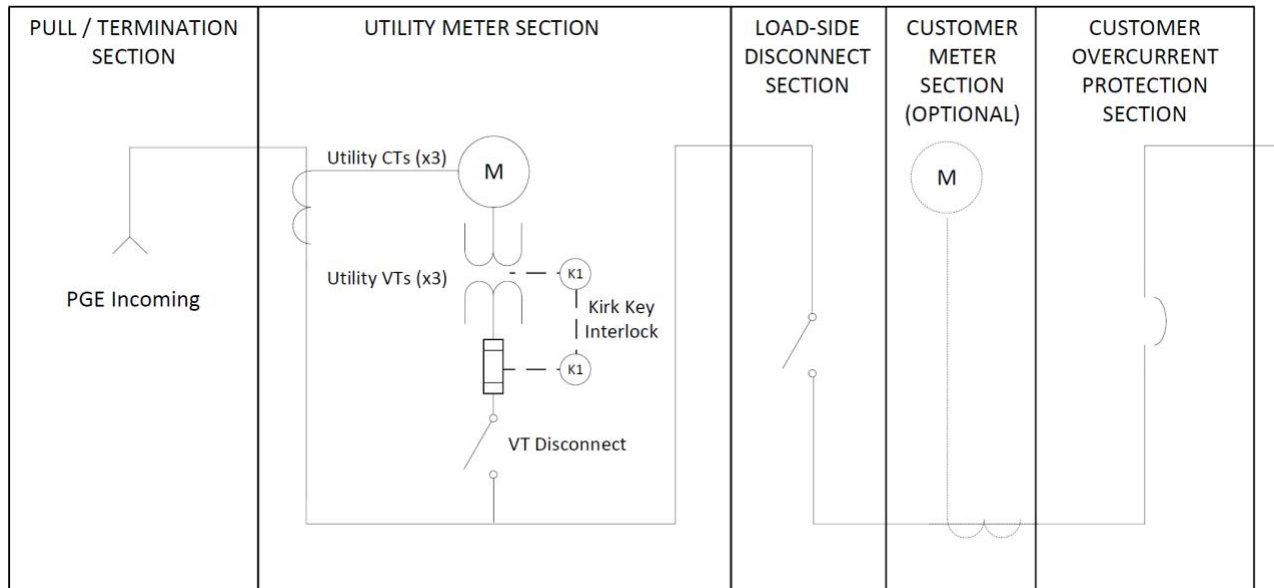

Figure 4: Compartment Layout and Electrical One-Line
- Between metering current transformers (CTs) and the access door. This barrier must be hinged to allow unobstructed access to the metering CTs and bus as shown in **Figure 4**.
- Between metering potential transformers (PTs) and the access door. This barrier must be hinged to allow unobstructed access to the metering PTs and bus as shown in **Figure 4**.
- Between the termination lugs and the access door. This barrier must be hinged to allow unobstructed access to the terminations as shown in **Figure 4**.
Figure 4 shows typical compartment layout and electrical one-line for each section.